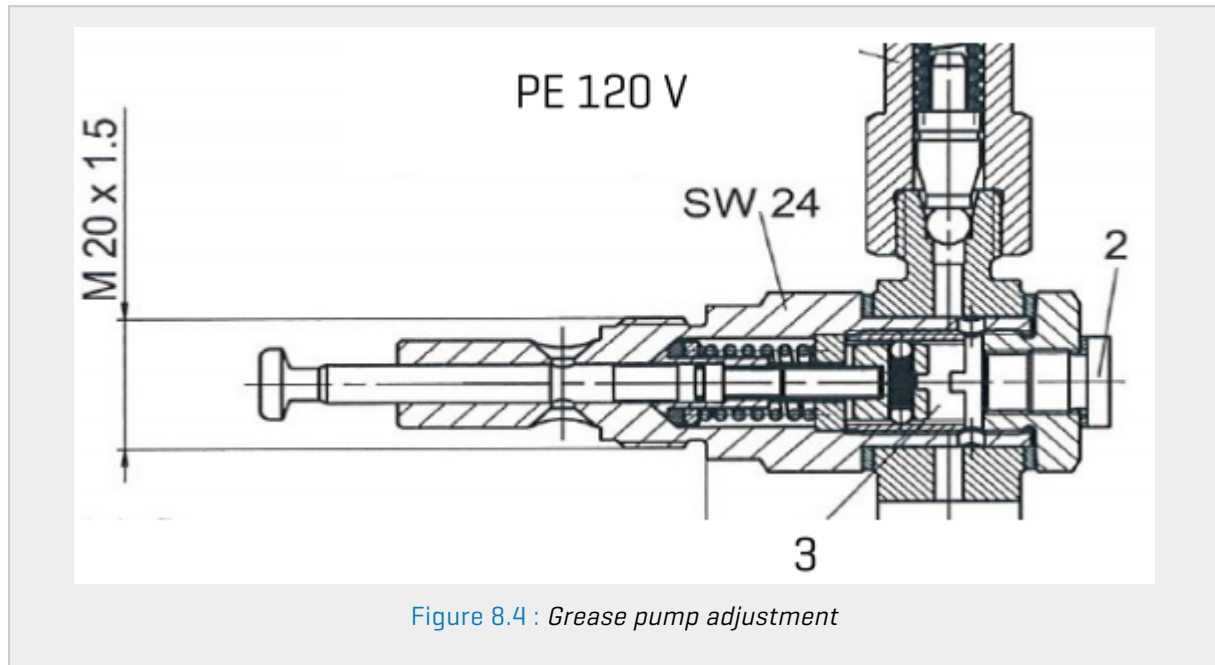

Figure 8.4 : Grease pump adjustment
Remove plug [item 2, Figure 8.4] to get access to adjusting screw [3]. By turning the screw clockwise, the amount is reduced. 1/2 turn on the adjusting screw reduces the grease added by 0,013cm³. Please contact Orkel Compaction if you have any questions.